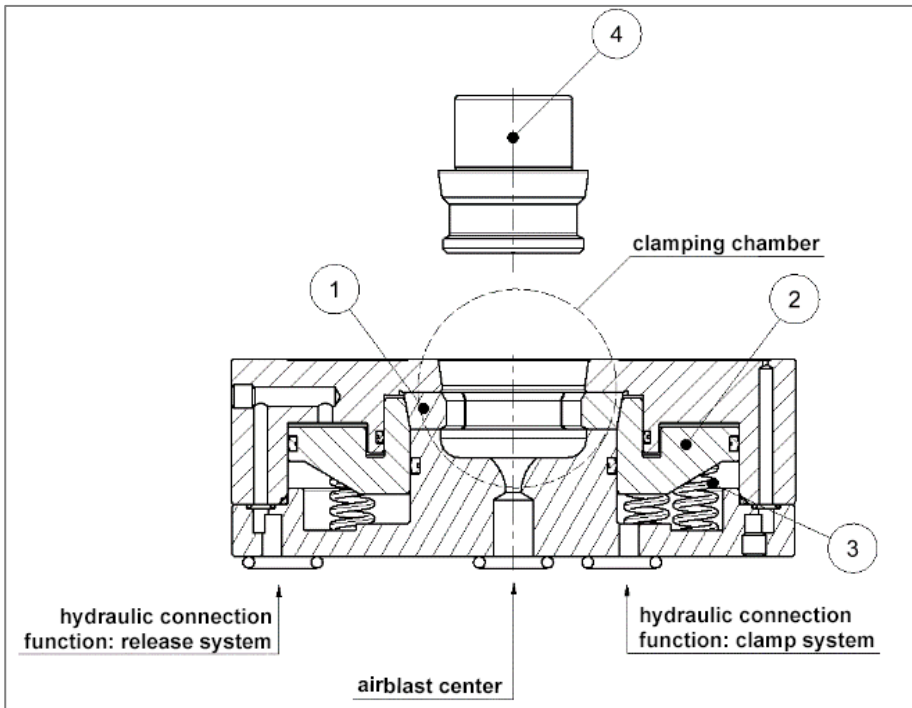

Figure 5 – Sectional view of the clamping/release process
1. To initiate a clamping process, the piston (Fig. 5/2) must be at the lower stop. The pressure medium is introduced through the opening (release system) in the housing above the piston (Fig. 5/2).
2. The piston (Fig. 5/2), which encloses the clamping segments (Fig. 5/1), allows them to open through the expansion segments.
3. The clamping bolt (Fig. 5/4) can now be introduced and must lie flat.
4. When the pressure medium is released, the piston (Fig. 5/2) moves upwards due to the force of the spring assembly (Fig. 5/3). The clamping segments (Fig. 5/1) are placed against the piston (Fig. 5/2) and enclose the clamping bolt (Fig. 5/4).
5. To complete the clamping process, the pressure medium is introduced through the opening (clamping system) in the housing under the piston (Fig. 5/2). The pressure medium is then drained and uncoupled.
1. The pressure medium is introduced through the opening (release system) in the housing above the piston (Fig. 5/2).
3. The clamping bolt (Fig. 5/4) can now be lifted out of the clamping chamber.